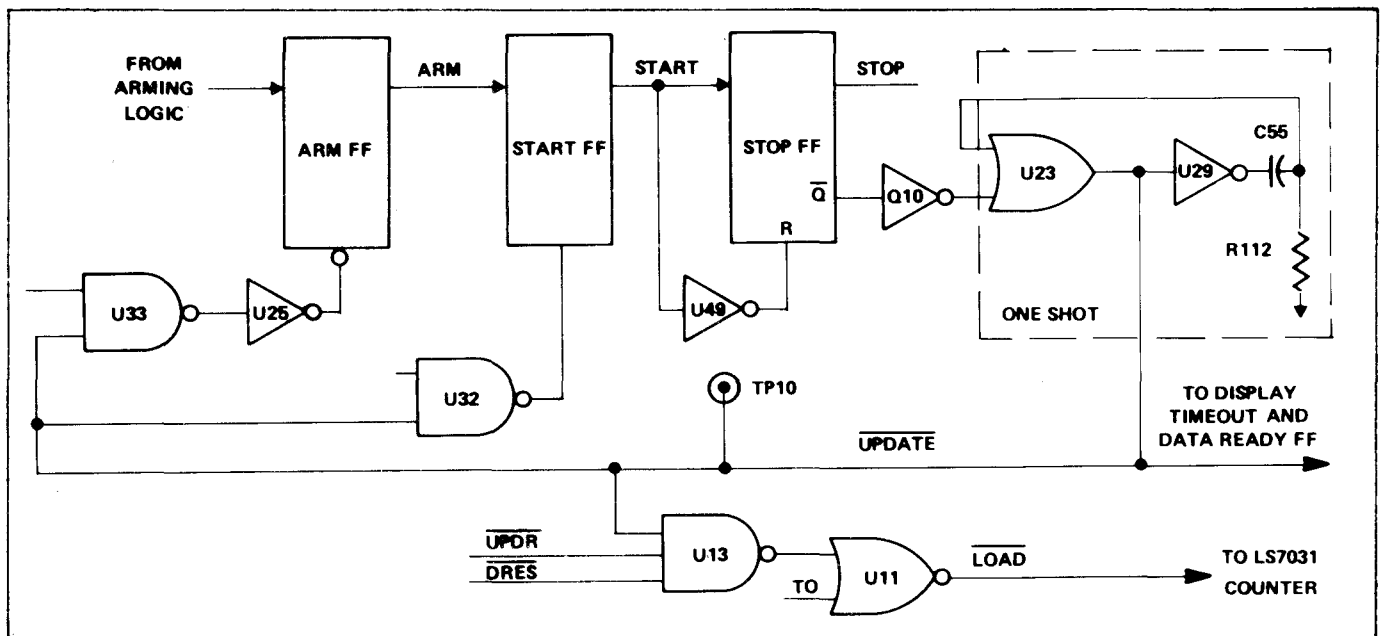

Figure 1.29 - Update Simplified Logic Diagram
1.4.16.1 The  $\overline{UPDATE}$  signal is initiated by the stop signal of the measurement gate. A simplified diagram of the update circuit is shown in figure 1.29. The update signal loads the contents of the accumulator into the display and starts the display timeout circuit to display the measurement data long enough to be read by the user. At the end of the display timeout the CLEAR signal is generated and a new measurement cycle is started. See figure 1.29.